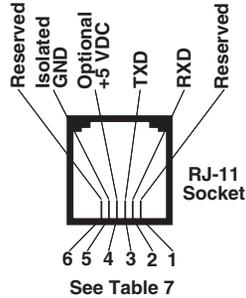

Figure 8 – RJ-11 Connections
- Standard 4-wire cable with male RJ-11 connectors (see Figure 8 and 9, and Tables 7 and 8 for a wiring diagram and pin descriptions).